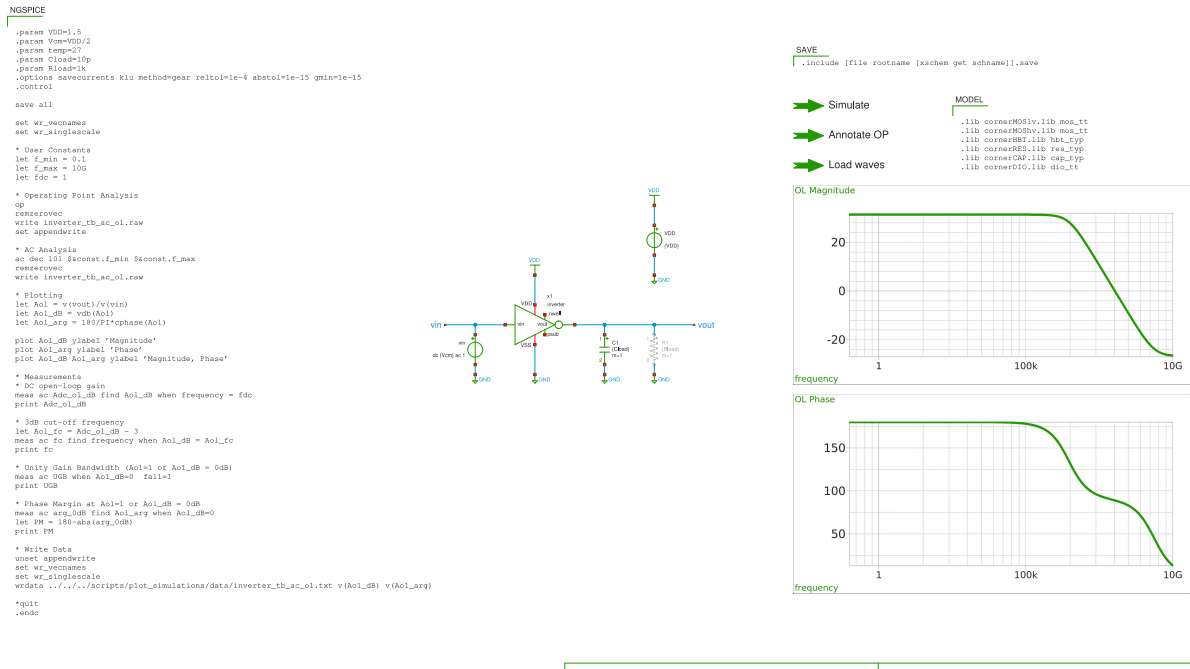

Figure 9: Xschem testbench inverter_tb_ac_ol (open-loop ac characterisation on inverter).
- inverter_tb_ac_ol.sch, open-loop ac characterisation (see Figure 9),